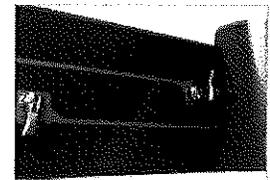

Figure 1
2. Bend the iWave-F back on top of itself (DO NOT bend under with hook and loop backing facing each other) so the brush pairs on the top will lay next to the brush pairs on the bottom, shown in Figure 1.